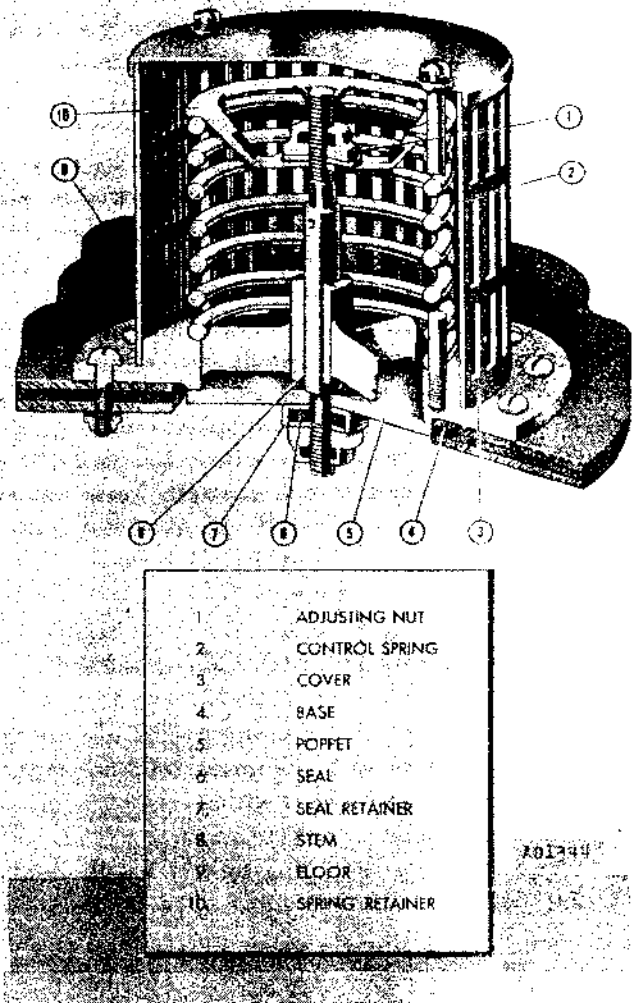

Figure 254 — Cockpit Pressure Relief Valve
(2) MAINTENANCE REPAIRS.—The pressure regulator valve has been adjusted and tested at the factory, and the valve should not be disassembled or adjusted. If the valve is found to be defective, it should be replaced by a new or reconditioned valve. When installing the valve, be sure that all connections are tight, and that the valve mounting gasket is in serviceable condition.
(3) REPLACEMENTS.—Replace control-chamber filter screen at each 100-hour inspection period.
b. PRESSURE RELIEF VALVE (All F-80A Airplanes). (See figure 254.)
(1) DESCRIPTION.—The pressure relief valve operates only upon failure of the cockpit pressure regulating valve. The valve contains a spring-loaded disc, and is set to start relieving at 3 psi above atmospheric pressure. Flow through the valve is sufficient to prevent cockpit pressure from exceeding atmospheric by more than 3.2 psi. The valve is mounted on the cockpit floor between the rudder pedals.
(2) MAINTENANCE REPAIRS.—The pressure relief valve has been adjusted and tested at the factory and should not be disassembled. If the valve leaks or operates erratically, it should be cleaned without disassembling. Be sure all oil and dirt are removed from between disc and seat. Operate disc by hand to be sure that disc is seating properly. When installing the valve, be sure there are no leaks around the valve mounting flange.